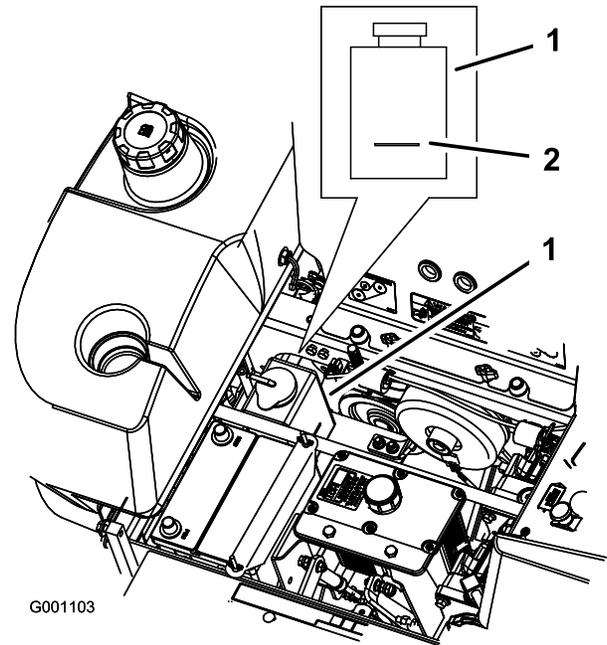

Figure 55
3. With the engine cool, check the overflow bottle level. The fluid needs to be up to the bump on the outside of the overflow bottle (Figure 55).
4. If the coolant level is low, add a 50/50 mix of extended life antifreeze/Dex-Cool® and water to the overflow bottle (Figure 55).
5. Add the 50/50 coolant mix to the overflow bottle and fill it to the indicator line on the bottle (Figure 55).